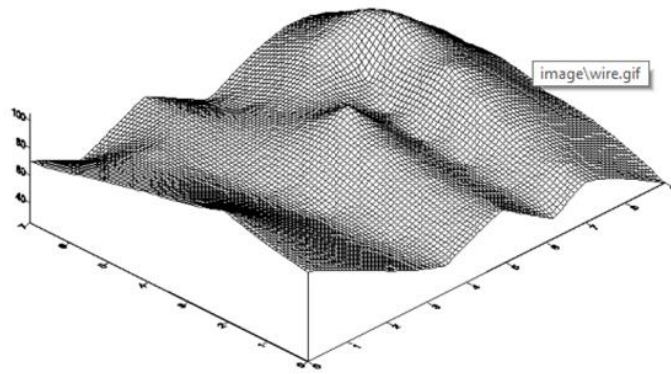

Figure 1.139 – A wireframe map based on TUTORWS.GRD
4. Choose the grid file TUTORWS.GRD from the list of files in the **Open Grid** dialog, click *Open*, and the map is created, fig. 1.139. (TUTORWS.GRD, created in *Lesson 2 - Creating a Grid File*, is located in **Surfer's** SAMPLES folder.)